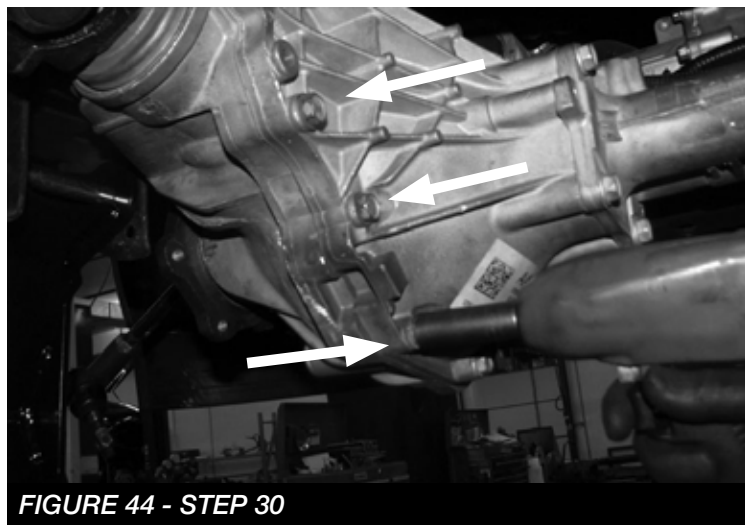

FIGURE 44 - STEP 30
30. Remove the 3 factory differential housing bolts and discard. **SEE FIGURE 44**